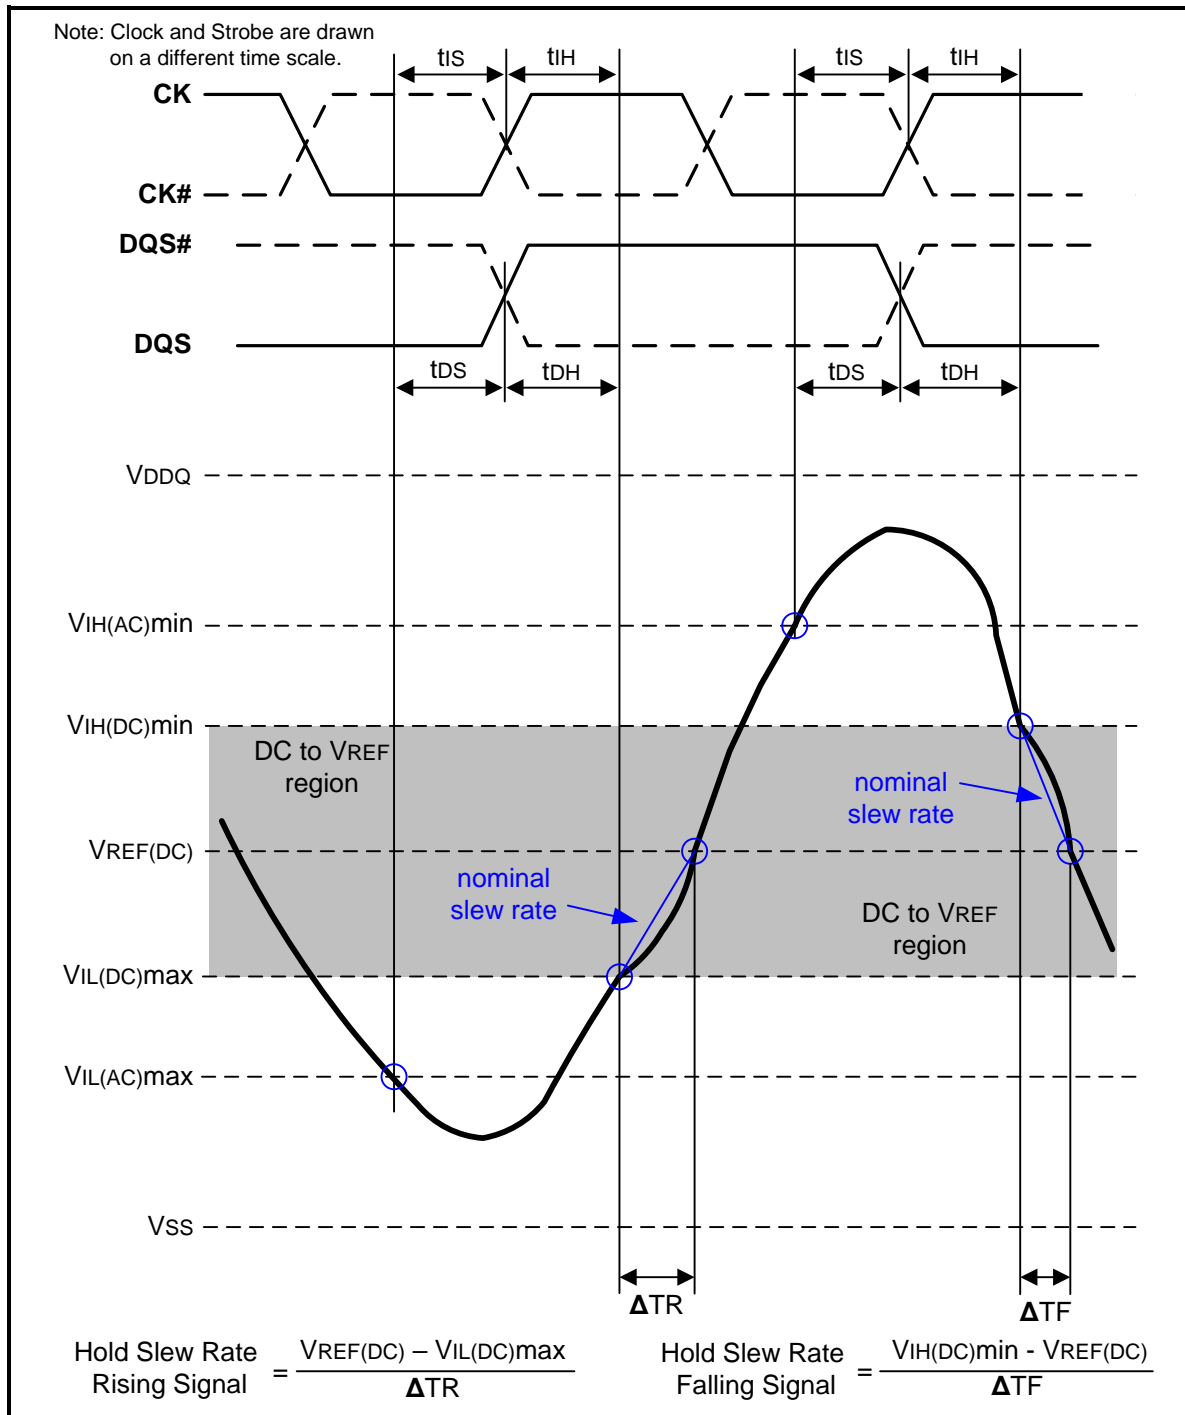
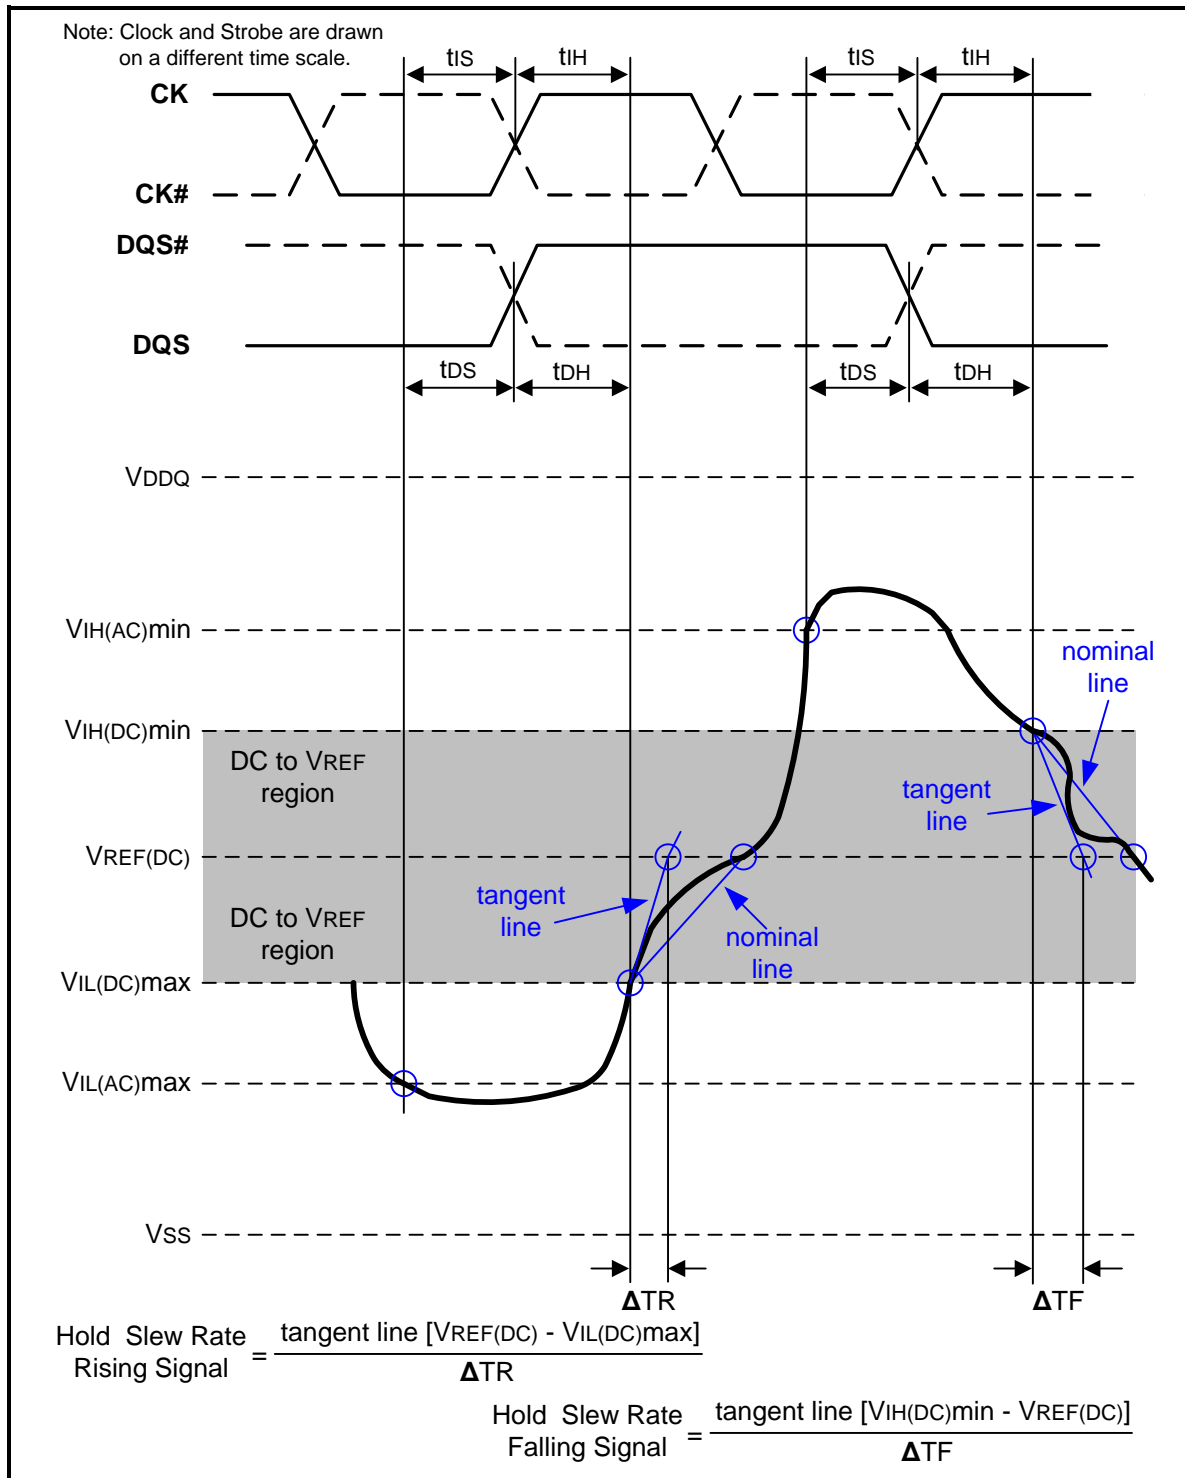

Figure 108 – Illustration of nominal slew rate for hold time  $t_{DH}$  (for DQ with respect to strobe) and  $t_{IH}$  (for ADD/CMD with respect to clock)
Figure 110 – Illustration of tangent line for hold time tDH (for DQ with respect to strobe) and tIH (for ADD/CMD with respect to clock)
Hold ( $t_{IH}$ ) nominal slew rate for a rising signal is defined as the slew rate between the last crossing of  $V_{IL(DC)max}$  and the first crossing of  $V_{REF(DC)}$ . Hold ( $t_{IH}$ ) nominal slew rate for a falling signal is defined as the slew rate between the last crossing of  $V_{IH(DC)min}$  and the first crossing of  $V_{REF(DC)}$ . If the actual signal is always later than the nominal slew rate line between shaded 'DC to VREF(DC) region', use nominal slew rate for derating value (see Figure 108). If the actual signal is earlier than the nominal slew rate line anywhere between shaded 'DC to VREF(DC) region', the slew rate of a tangent line to the actual signal from the DC level to  $V_{REF(DC)}$  level is used for derating value (see Figure 110).
Hold (tDH) nominal slew rate for a rising signal is defined as the slew rate between the last crossing of VIL(DC)max and the first crossing of VREF(DC). Hold (tDH) nominal slew rate for a falling signal is defined as the slew rate between the last crossing of VIH(DC)min and the first crossing of VREF(DC) (see Figure 108). If the actual signal is always later than the nominal slew rate line between shaded 'DC level to VREF(DC) region', use nominal slew rate for derating value. If the actual signal is earlier than the nominal slew rate line anywhere between shaded 'DC to VREF(DC) region', the slew rate of a tangent line to the actual signal from the DC level to VREF(DC) level is used for derating value (see Figure 110).